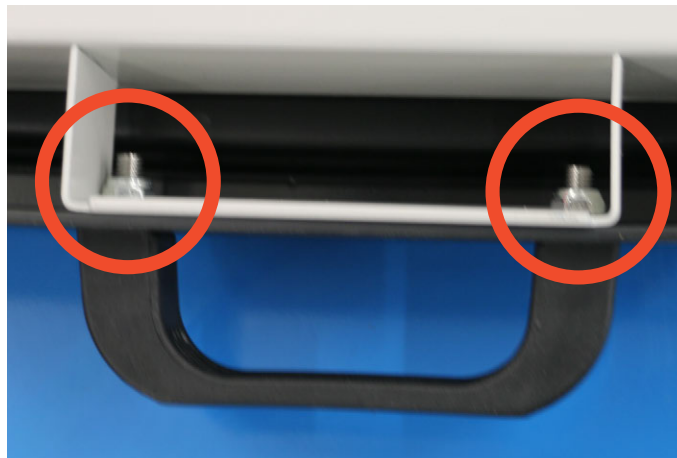

Figure 3. Handle Nut Locations
5. Remove handle hex bolts and nuts with a 5 mm hex allen wrench and 10 mm open end wrench (see Figure 3).